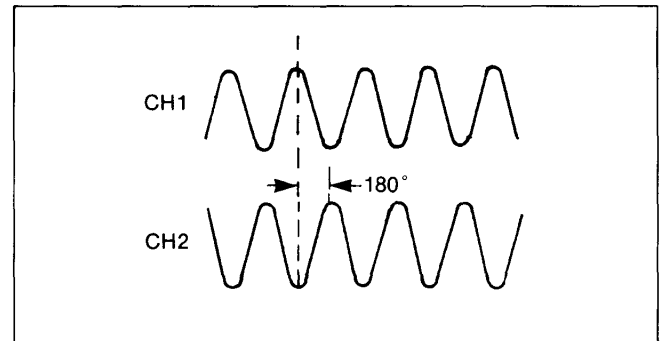

Figure M18
7. Turn the screw (C) to clockwise so that the difference of phases of both channels become 180 degrees as shown in Figure M18.